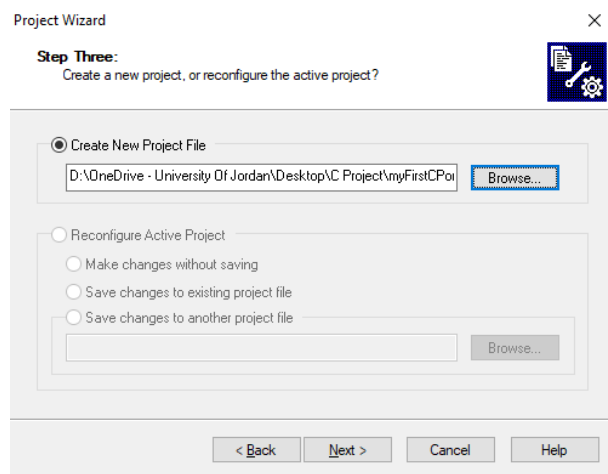
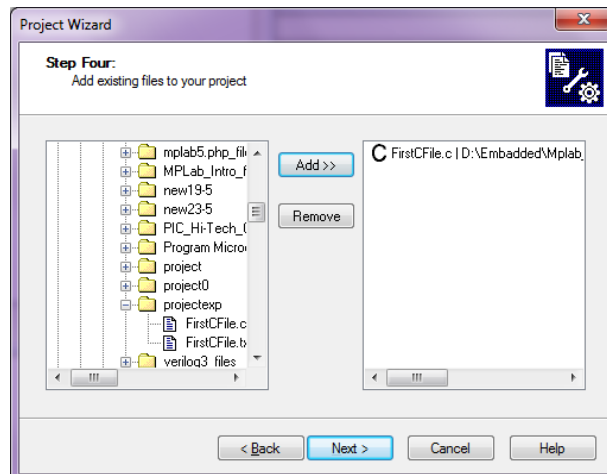
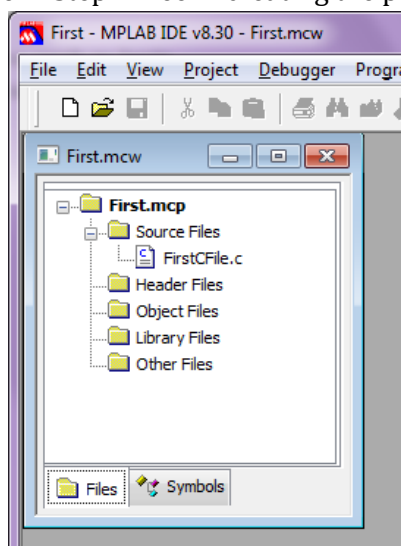
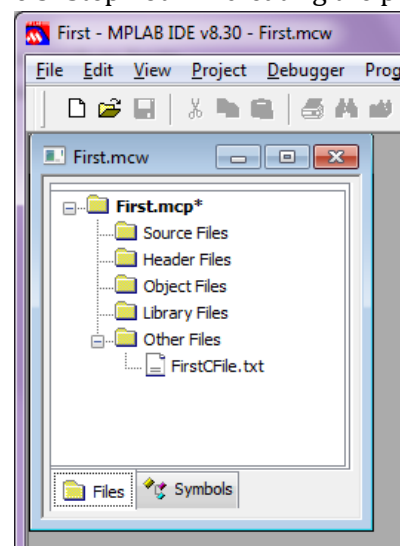

Figure 2: Step Three in creating the project.
Figure 3: Step Four in creating the project.
Figure 4: Project window. (CORRECT)
Figure 5: Project window with incorrect file extension. (WRONG)
1. You will need to use the **Set Display Address** command to select the display location. Check Figure 2 in the tutorial to know the addresses of the locations to be used.
Next, give a name to your project and specify its location in **Step Three** as shown in Figure 2. Click next to move to **Step Four** where you can add the C file to your project as shown in Figure 3. Click next. If you followed the steps correctly, you should see the project window with selected C file under the Source File menu as shown in Figure 4. If you did not save your source file with .C extension, it will appear under the Other Files menu as shown in Figure 5. To correct that, save the file in .C extension and the right click on the Source File menu and select Add Files to select the add the new file.